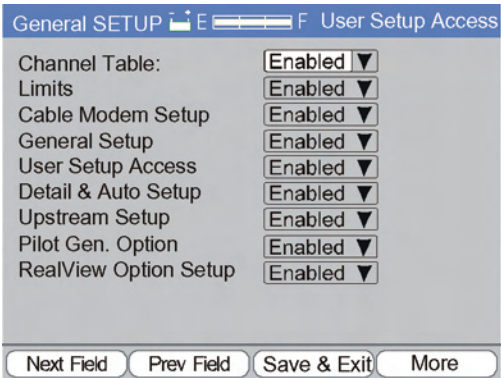

Figure 3-11
**MORE** - This first General Setup screen is always accessible. The password must be entered to access the administrator functions. Once the password is entered, the MORE (F4) key will be visible. Pressing the MORE (F4) key will display the second General Setup screen-User Setup Access (Figure 3-11). If the F4 MORE key is not displayed, enter the password to display the MORE F4 key and press the F4 key to gain access to the User Setup Access screen.